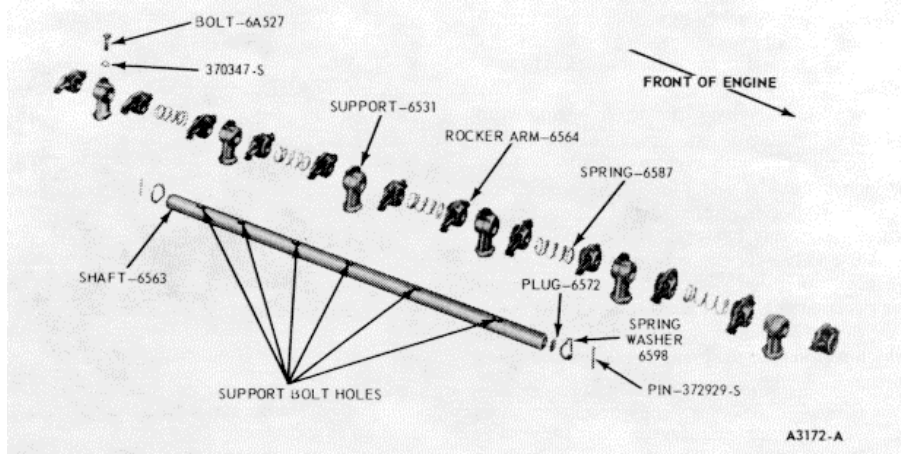

FIG 58 Valve Rocker Arm Shaft Assembly
4. Install the valve rocker arms, supports, and springs in the order shown in Figure 58. Be sure the oil holes in the shaft are facing downward. Complete the assembly by installing the remaining spring washer and pin.